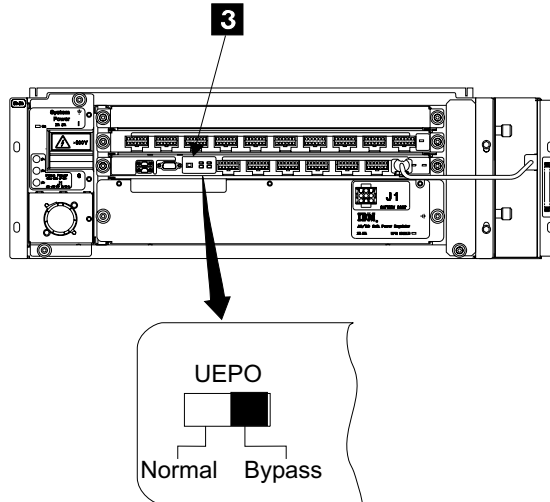

Figure 71. Bulk Power Supply Panel (t007406m)
- Front battery only, after the replacement is complete, set the UEPO switch, **3** in Figure 71 on page 86, on the front and rear bulk power supply assemblies to NORMAL (left).